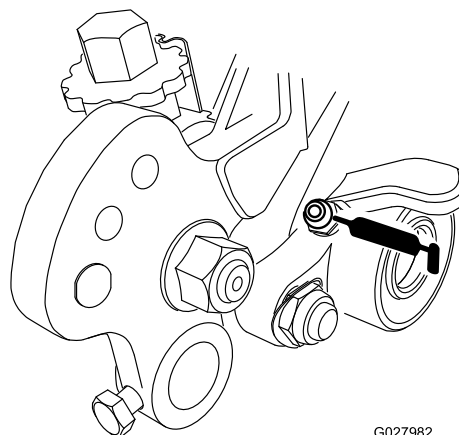
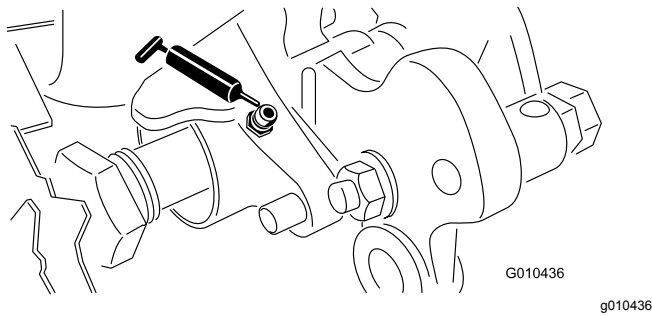

Figure 19
Figure 20
39. Lubricate the groomer bearings (Figure 19 and Figure 20) weekly or after every 10 operating hours, before extended periods of non-use, and immediately after every washing. Pump grease into the fittings until grease is purged onto the groomer shaft. Wipe excess grease from the seals and shaft.